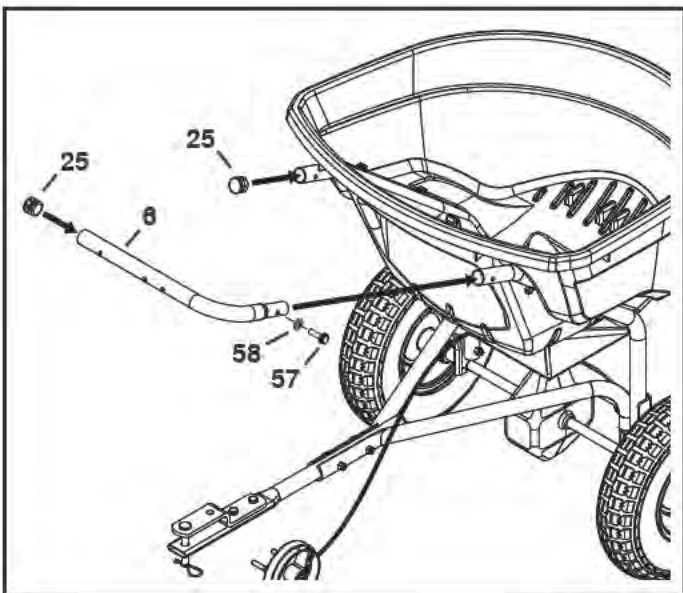

FIGURE 5
STEP 5: (SEE FIGURE 5)
- Insert the control tube (6) into the left hopper support tube and secure it in place with the 5/16" x 3/4" lag screw (57) and 5/16" lock washer (58).
- Press tube plugs (25) into the right hopper support tube and the control tube (6).